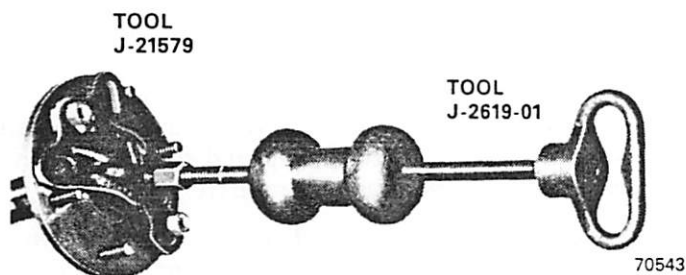

Fig. 2F-24 Axle Shaft Removal—Cherokee-Wagoneer-J-10 Truck
- (1) Raise and support vehicle and remove wheels.
- (2) Remove brakedrum.
- (3) Remove nuts attaching support plate and retainer to axle tube flange using access hole in axle shaft flange.
- (4) Assemble Adapter Tool J-21579 and Slide Hammer J-2619-01, install tools on axle shaft flange, and remove axle shaft (fig. 2F-24).